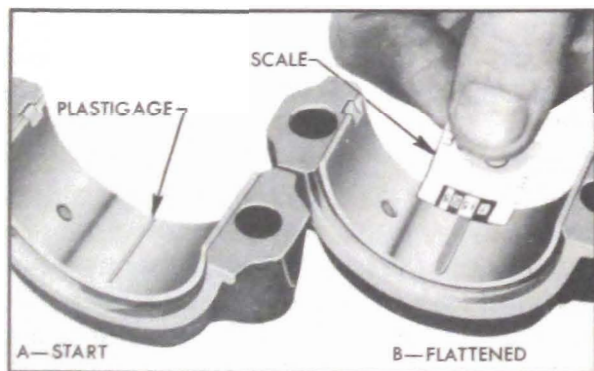

Figure 2-24—Checking Bearing Clearance with Plastigage
3. Place a piece of Plastigage lengthwise along the bottom center of the lower bearing shell (fig. 2-24, view A), then install cap. Tighten bolts to 40-50 ft. lbs. torque on *Series 40-50* engine, or to 60-65 ft. lbs. torque on *Series 70* engine. NOTE: *A ridge formed on edge of cap and a boss formed on web of rod above the bearing must be in line and toward rear of engine when cap is installed.*
6. Using the scale printed on the Plastigage envelope, measure the width of the flattened Plastigage at its widest point. The number within the graduation which most closely corresponds to the width of Plastigage indicates the bearing clearance in thousandths of an inch. See figure 2-24, View B.